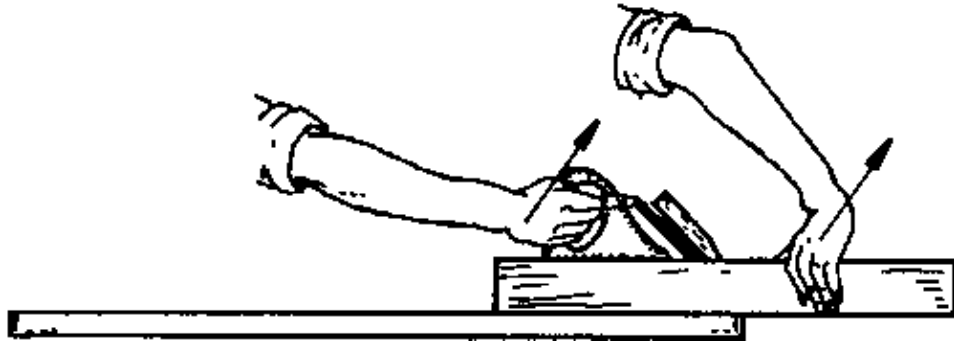

Fig. 2
- When you use the plane, try to put pressure on it in such a way that the part of the sole which is in contact with the wood is pressed firmly to the wood surface. At the start of the stroke when the cutting iron does not yet touch the wood, put pressure on the front part of the plane (Fig. 1). When the cutting iron comes to the end of the board, press down more on the heel of the plane (Fig. 2).